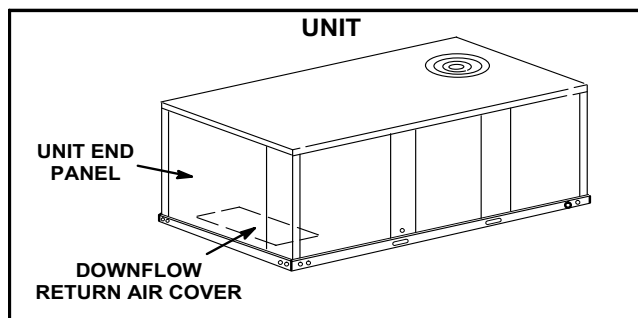

FIGURE 30
- 1- Remove unit end panel. See figure 30.
- 2- Install the downflow return air cover in horizontal airflow applications. See instructions provided with K1HECK and figure 30.